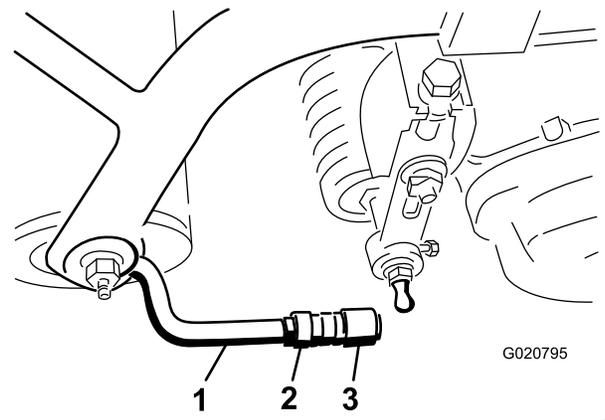

Figure 9
5. Align the sockets in the ball joints so that the open side of the socket is centered toward the ball stud, and tighten the jam nuts to secure the sockets in position (Figure 9).